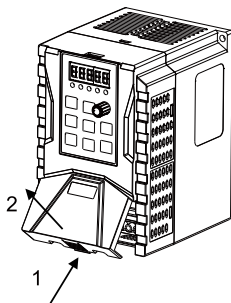

Fig 3-6 Terminal cover disassembly
A. Method of terminal cover disassembly is shown as fig 3-6:press terminal cover card position in direction 1 and remove terminal cover in direction 2.